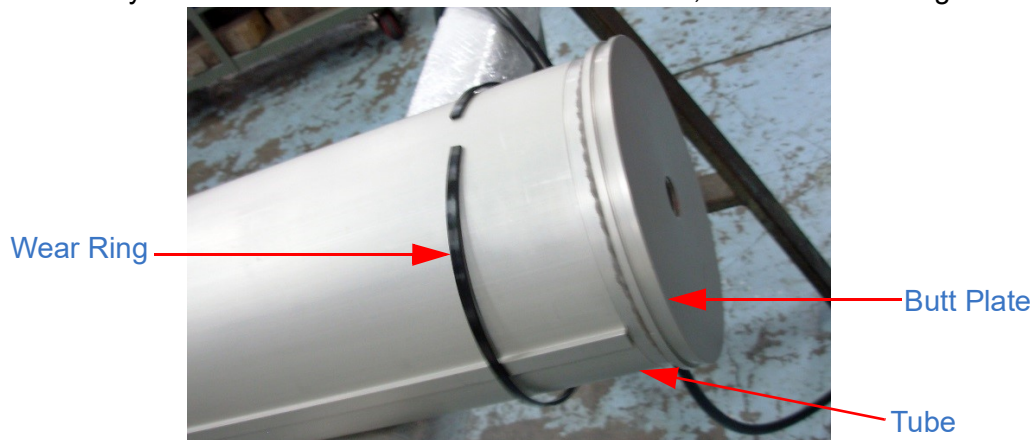

*Figure 8-11 Tube and Butt Plate*
1. Check the butt plate for any burrs (Figure 8-11).